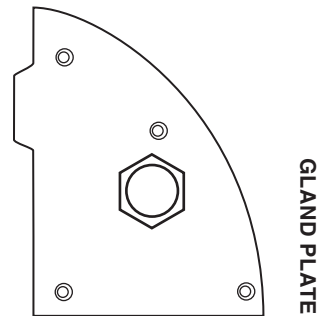

Figure 2
- Drill a 32mm hole in the pool wall (Vinyl / fibreglass conversion kit # 26601 required) at 550mm below top of coping. This is where the cable will pass through the wall. See figure 2.